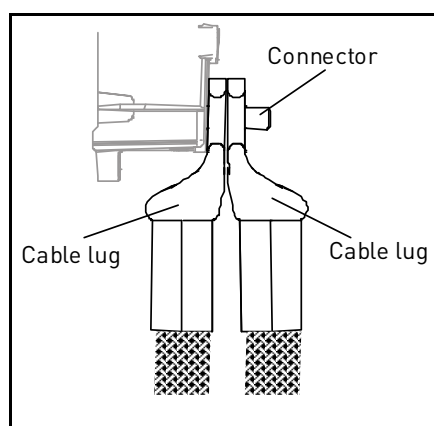

Figure 35. Placing two cable lugs on top of each other
- **NOTE:** If you use several cables on one connector observe the position of cable lugs on top of each other. See Figure 35 below.